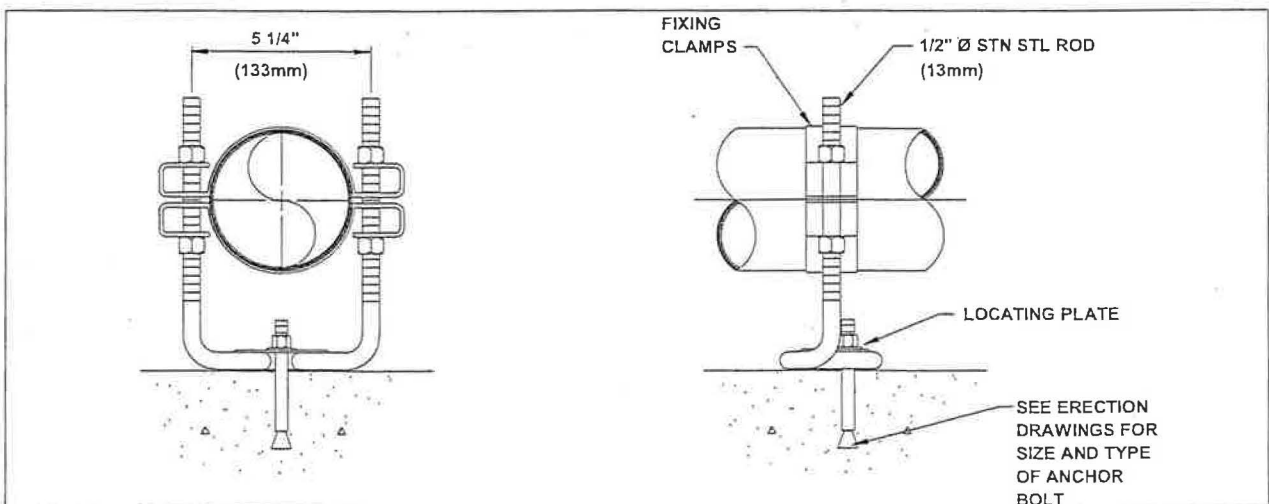
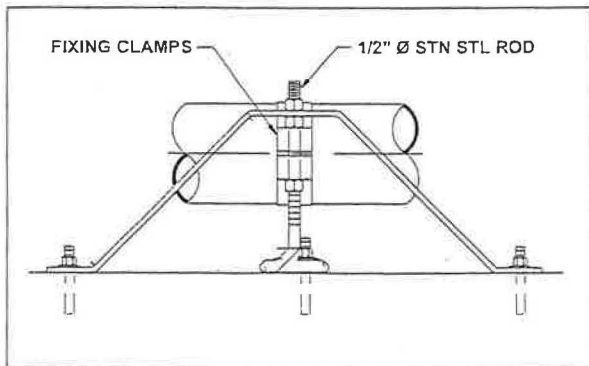
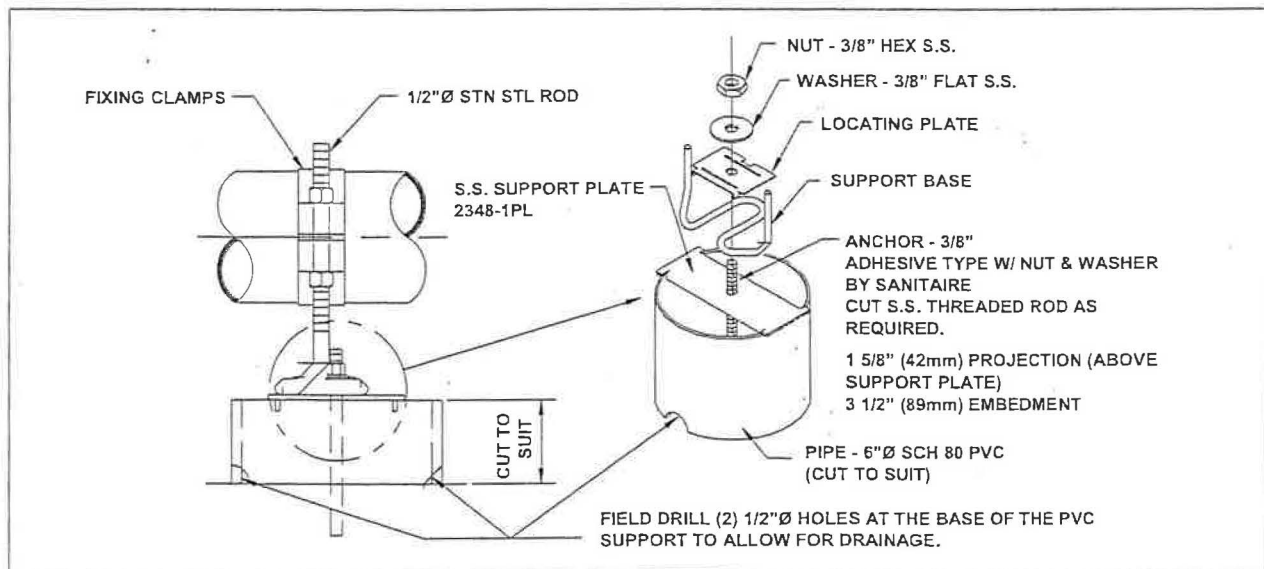

Figure 24
Figure 26B
Figure 26A
**Anchor Supports** — (see Figures 24, 26A and 26B.) Anchor supports are used after expansion joints. The anchor support has 1/2" Ø rods and a 5-1/4" (133 mm) center to center rod distance. The clamps are heavy gauge stainless and will clamp down tight on the pipe. Modifications to the anchor support will be used if the air distributor centerline exceeds 5" (127 mm) from the floor and may be the pedestal type as shown in Figure 26A or have stiffening struts applied as shown in Figure 26B.